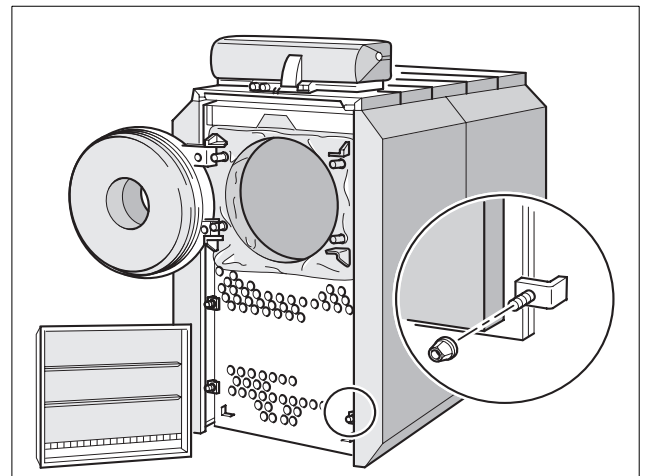

Fig. 26 Remove the reversing cover and open the burner door
- Remove nuts from holding bracket and remove front reversing cover (Fig. 26).
- Remove hexhead nuts from burner door and open burner door (Fig. 26).
- Reinstall reversing cover and secure with holding bracket (Fig. 26).
5	Remove reversing cover (Fig. 26, page 25)